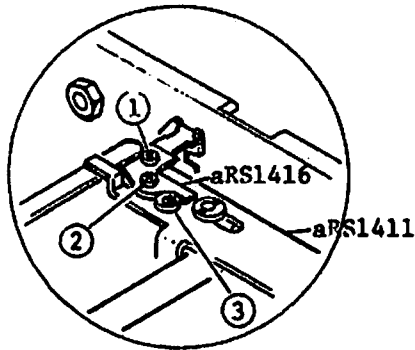
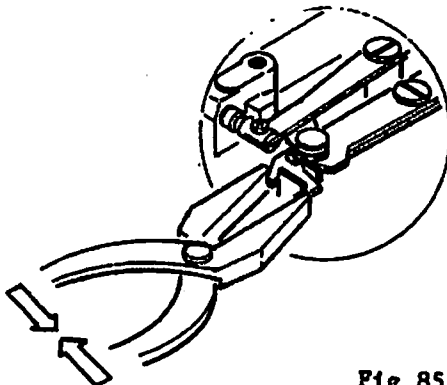

Fig. 83
Fig. 85
- (1) Loosen Set screw 1 , 2 and 3 for Release plate supporter (aRS1416) fastened with Release plate (aRS1411) as shown in Fig. 83.
- (2) Insert Stop lever clearance gauge (aRS-13) into the lug of the body and Stop lever, then move Release plate supporter (aRS1416) so that the shutter button does not work.
- (3) Tighten Set screw 1 and 2.
- (4) Support Set screw 3 with Eccentric stopper (RS1545) and tighten it.
- (5) Check the clearance (1.7mm).
- (6) Apply Screw lock to Set screw 1 , 2 and 3.
- (7) Use a pincers to tighten the edge of Sub lever (aRS1416) so as not leave gaps between the edge of sub lever and Release plate supporting (aRS1516) as shown in Fig. 85.